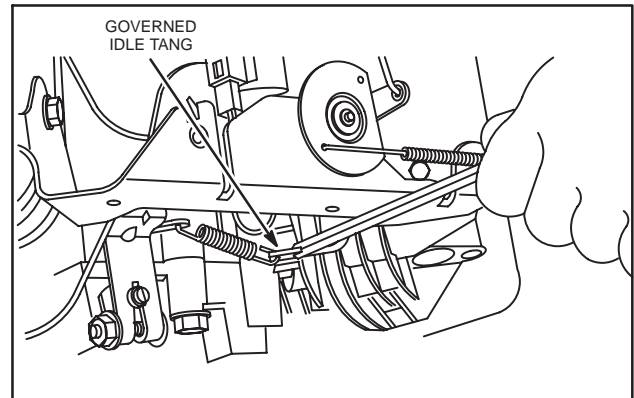

Fig. 26 – Adjust Governed Idle
3. Bend governed idle tang to obtain 1750 RPM, Fig. 26.